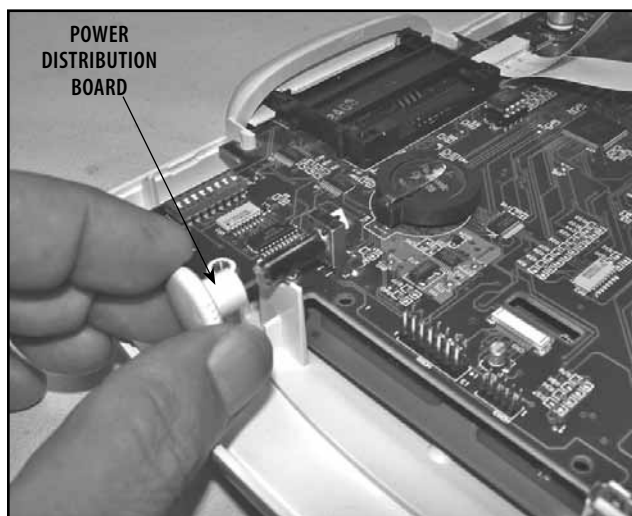

FIGURE 6.28
3. Remove the Contrast Knob. See Figure 6.28.